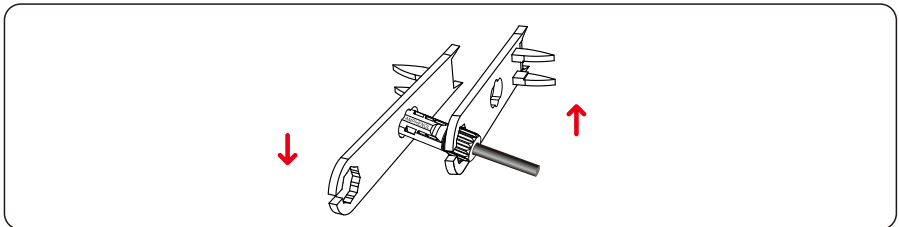

Figure 5.11 Locking connectors
Step 4 Tighten the locking nuts on the positive and negative connectors using a removal wrench, as shown in Figure 5.11.